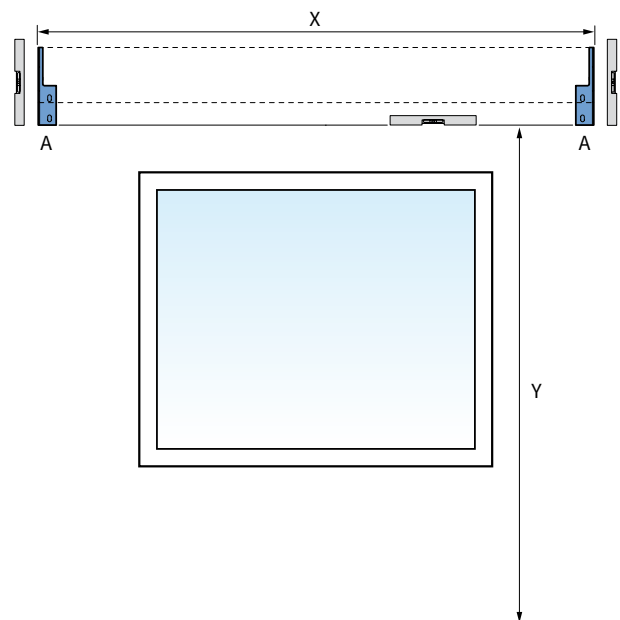

fig. 1.2 Placement of the wall supports
Precisely mark the drill holes for the wall supports (A) on the wall according to size X and size Y in figure 1.2. Make sure that the installation holes on top are in the middle of the stone.